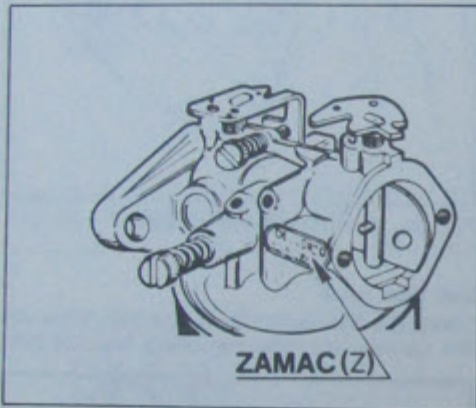

Fig. 32 Carburettor in zamac alloy
- Float type carburettor in Zamac alloy (Fig. 32)
Identification of Zamac alloy or Aluminium can be easily made by the name plate (Fig.32